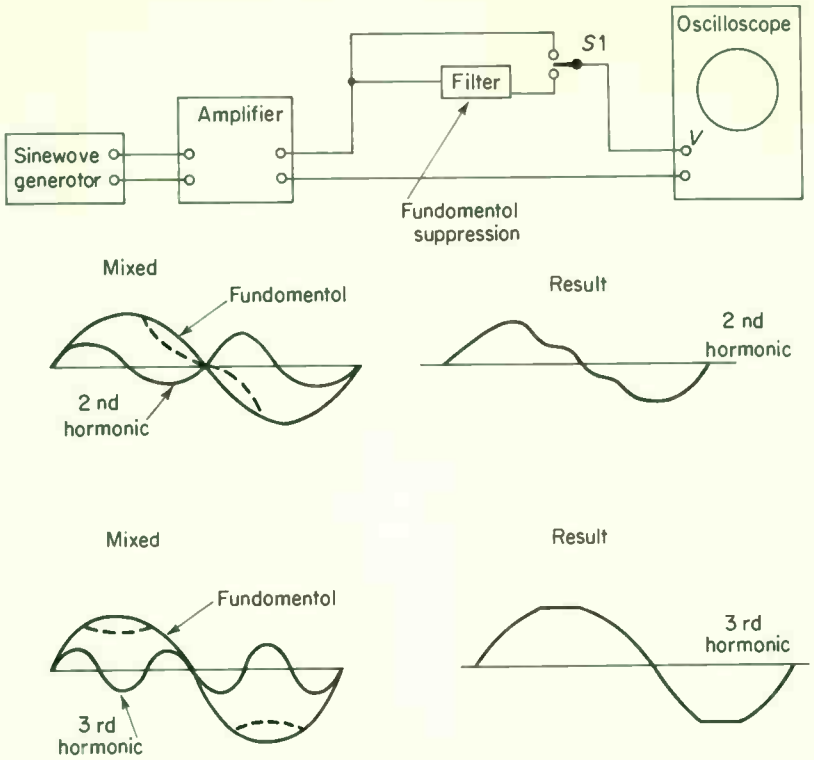

Fig. 10-4. Harmonic distortion analysis.
The procedure for checking amplifier distortion by means of sine waves is essentially the same as that described in Sec. 10-1. The primary concern, however, is deviation of the amplifier (or stage) output waveform from the input waveform. If there is no change (except in amplitude), there is no distortion. If there is a change in the waveform, the nature of the change will often reveal the cause of distortion. For example, the presence of second or third harmonics will distort the fundamental as shown in Fig. 10-4.
Commercial harmonic distortion meters operate on the *fundamental suppression* principle. As shown in Fig. 10-4, a sine wave is applied to the amplifier input, and the output is measured on the oscilloscope. The output is then applied through a filter that suppresses the fundamental frequency. Any output from the filter is then the result of harmonics. This output is also displayed on the oscilloscope where the signal can be checked for frequency to determine the harmonic content. For example, if the input was 1000 Hz, and the output after filtering was 3000 Hz, this would be a result of third harmonic distortion.
1. Connect the equipment as shown in Fig. 10-4.